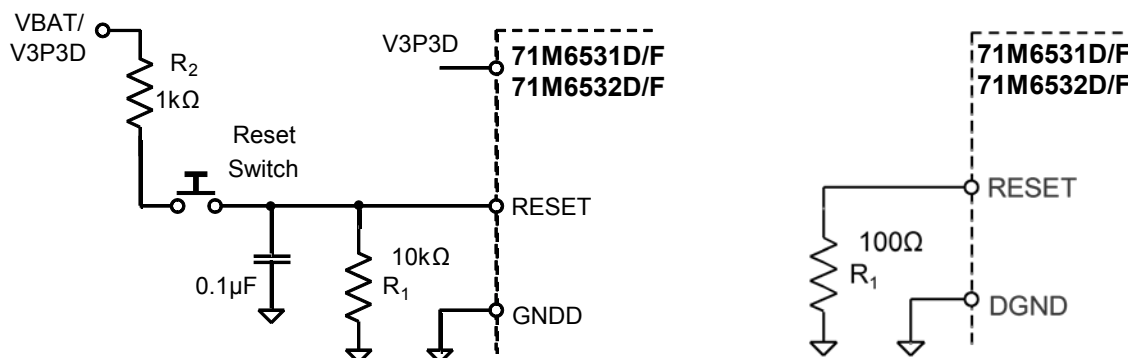

Figure 38: External Components for the RESET Pin: Push-button (Left), Production Circuit (Right)
Even though a functional meter will not necessarily need a reset switch, it is useful to have a reset push-button for prototyping as shown in Figure 38, left side. The RESET signal may be sourced from V3P3SYS (functional in MISSION mode only), V3P3D (MISSION and BROWNOUT modes), or VBAT (all modes, if a battery is present), or from a combination of these sources, depending on the application.
For a production meter, the RESET pin should be protected by the by the external components shown in Figure 38, right side. R1 should be in the range of 100 Ω and mounted as closely as possible to the IC.
- ✓ Since the 71M6531 generates its own power-on reset, a reset button or circuitry, as shown in Figure 38, is only required for test units and prototypes.